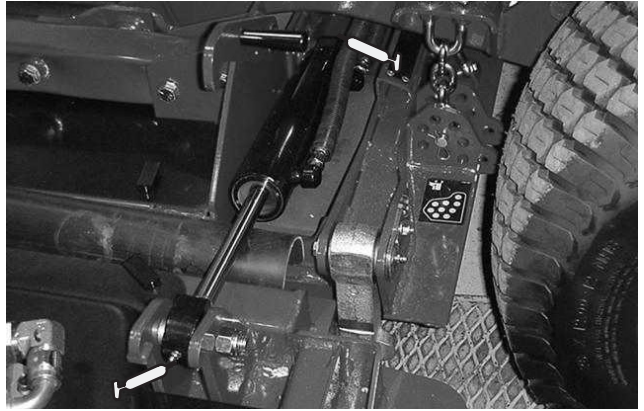

Figure 41
- Wing lift cylinders (4) (Fig. 41)